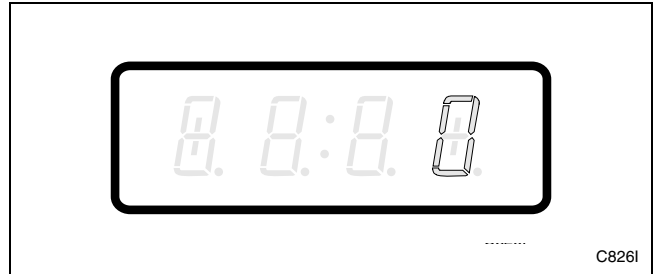

Figure 10
4. When “+002” appears in the VFD, press the START (enter) keypad. There are five digits in the Reg. Hot Wash Vend Price. The fifth digit will appear in the VFD and will flash one second on, one second off. Refer to *Figure 10*.